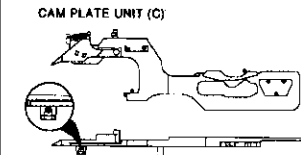

Fig. 2-34-2
1 Apply GREASE (MULTEMP SH-A) [859D055080] to the area specified in Fig. 2-34-2 on the new CAM PLATE UNIT (C).